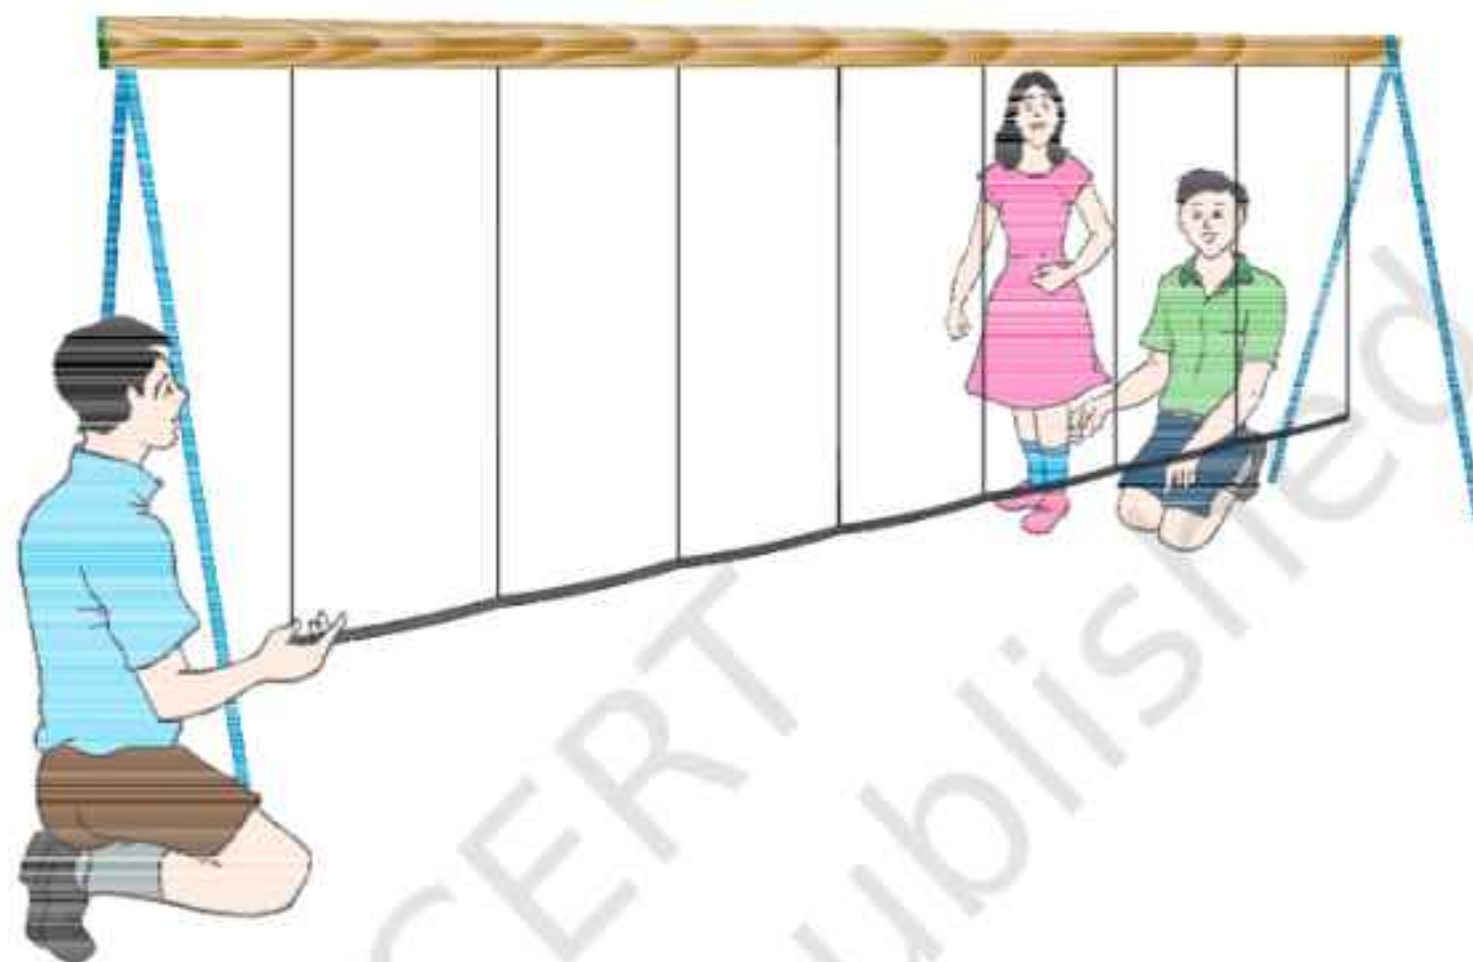

Fig. 43.5 : A large slinky is supported with several elastic threads
- If the set-up of this experiment has a larger amount of sagging in the slinky, the slinky may be provided a few supports with the help of light threads as shown in Fig. 43.5.